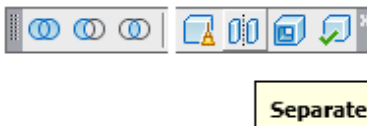

Figure Step 8
Step 8 Set layer: Solid 7 as the current layer. Click the Separate icon and enter the command shown below to separate the two solids. (Figure Step 8)